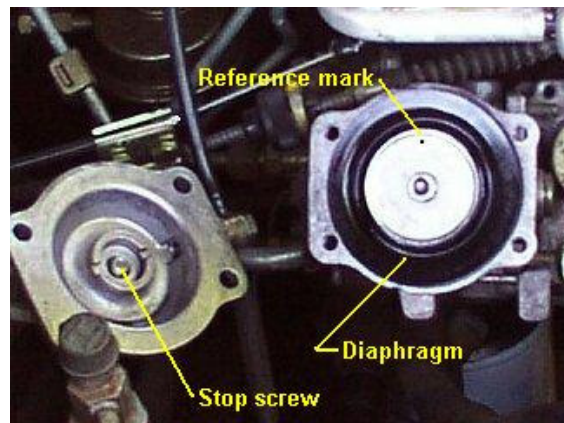

Figure 4
3. The diaphragm/cone rest position, adjusted using the Torx **stop screw** and locknut in the diaphragm cover (See Fig. 4).
1.2. As shown in Figure 4, the position of the diaphragm/cone assembly is determined by the 'centre punch' reference mark near the edge of the central steel plate of the diaphragm. **It is essential to note the original position of this reference mark when the diaphragm cover is first removed.**
1.4. For the following description, the position of the diaphragm is described in terms of degrees of rotation from the 'maximum' position. This is defined as that which orients the control cone to its 'most rearward' position. That is, the position which allows the stroke limit pin to travel most rearward. Therefore the 'maximum' position corresponds to the **maximum fuel position**. In the case of my assembly this coincided with the reference mark being at the 'twelve o'clock' position (to the top/high/tappet cover side, as shown in Figure 4 above). I do not know if this is always the case.
**Stage 2A:** Remove the four slotted pan-head screws securing the diaphragm top cover and lift off the cover (see Figure 4). Take care not to kink or damage the boost pressure signal tube. Next, **locate and record the position of the diaphragm reference mark** in terms of (approx.) degrees CW or CCW from the 12 o'clock (top) position. For example, my original position was about 100° CCW (or between 8 and 9 o'clock, if you prefer).